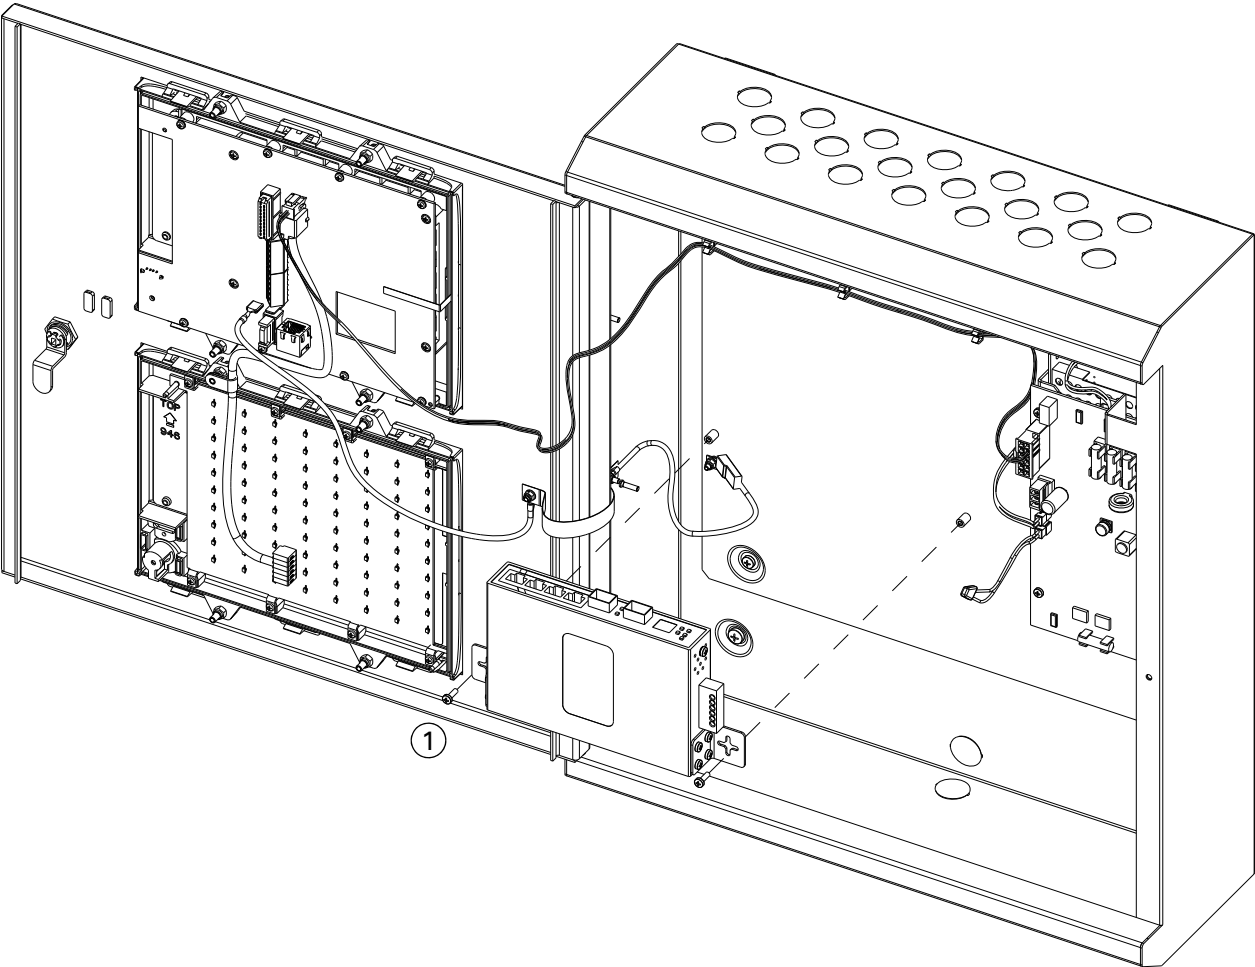

Fig. 16: Mounting a FC8AS repeater with an Ethernet Switch
- 1 Mount the Ethernet switch using the screws provided. Refer to item 1 in Fig. 16.